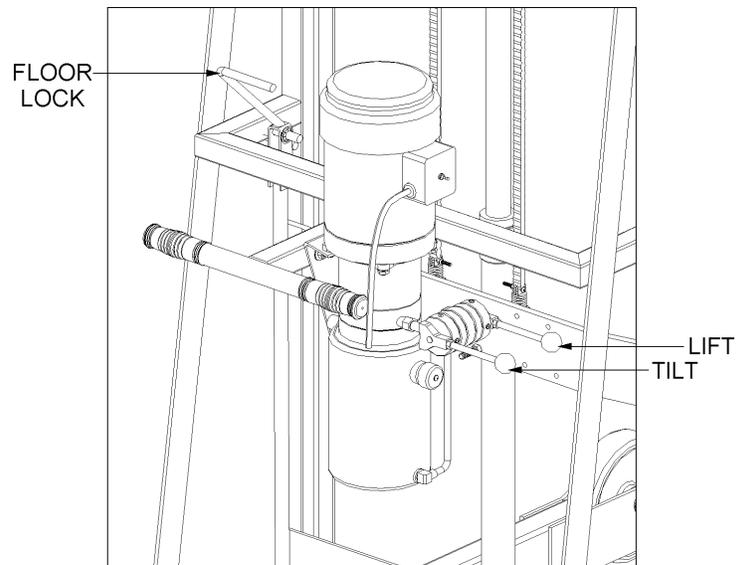

Figure 2.4
- a. Models with powered hydraulic lift: push control valve (see Figure 2.4) up to raise drum; push down to lower drum. (Exception: DC powered lift, manual tilt, "-125" suffix in model #, push control valve to the left to raise drum; push to the right to lower drum.)
- d. Models with power hydraulic tilt: operate the tilt control valve (see Figure 2.4) to adjust the pouring angle of the drum.
The floor lock handle is located on the left side of the push handle (see Figure 2.4). Pulling the handle toward the operator until it locks in the down position activates the floor lock. When the floor lock is activated it prevents unwanted free wheeling of the unit. Floor conditions determine the effectiveness of the floor lock. The operator should verify its holding action before depending on it to hold.